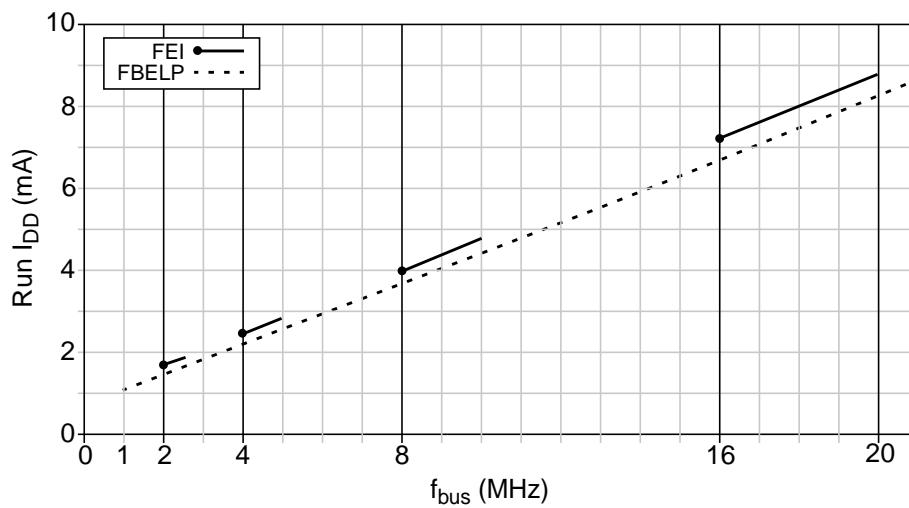

Figure A-5. Typical Run I_{DD} vs. Bus Frequency ($V_{DD} = 5V$)
- ¹ Typical values are based on characterization data at 25°C. See Figure A-5 through Figure A-7 for typical curves across voltage/temperature.